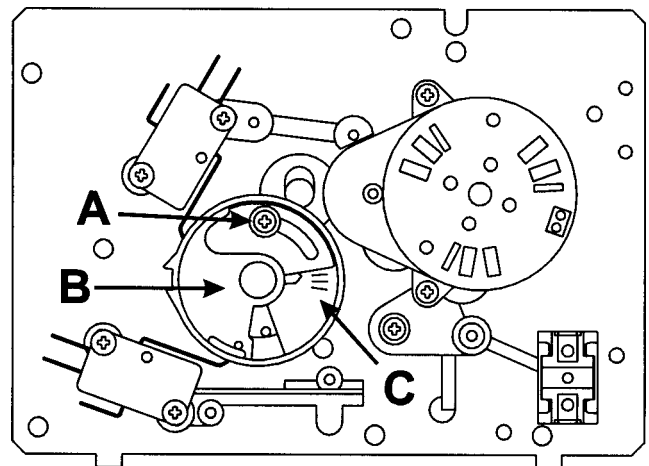

FIG. 7
3. Refer to Fig. 7. Loosen screw (A) and rotate the black cam segment (B) until its pointer indicates the desired backwash time on the grey cam segment (C). Retighten screw (A).